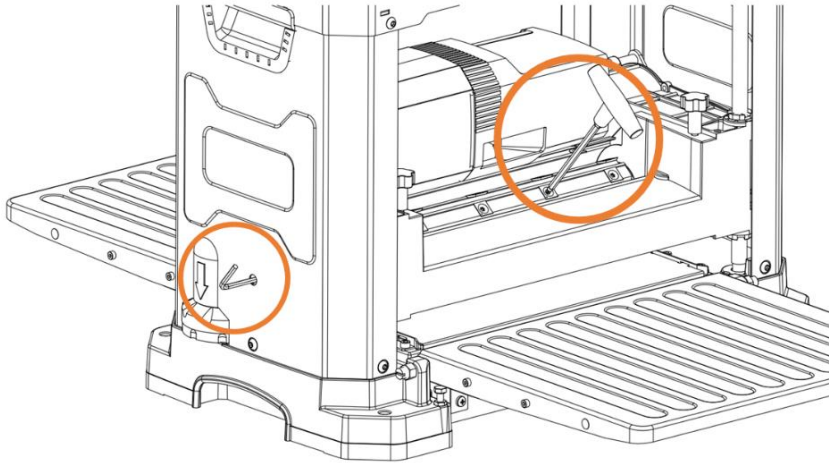

FIG 7
3. Insert the supplied Hex wrench through the hole located on the side of the machine beside the Repeat Cut indicator. Rotate the cutterhead to a position where a cutter tip is visible. SEE FIG.7. next page. (You may have to raise or lower cutterhead to be able to insert the Hex wrench into the cutterhead)